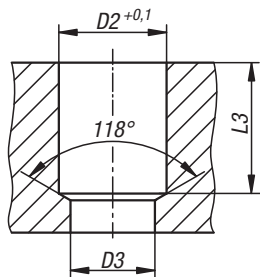

Abb.2
- Counterbored hole D2/D3 in accordance with data sheet (Fig. 2)
- Hole tolerance D2 = $+0.1$ mm (Fig. 2)